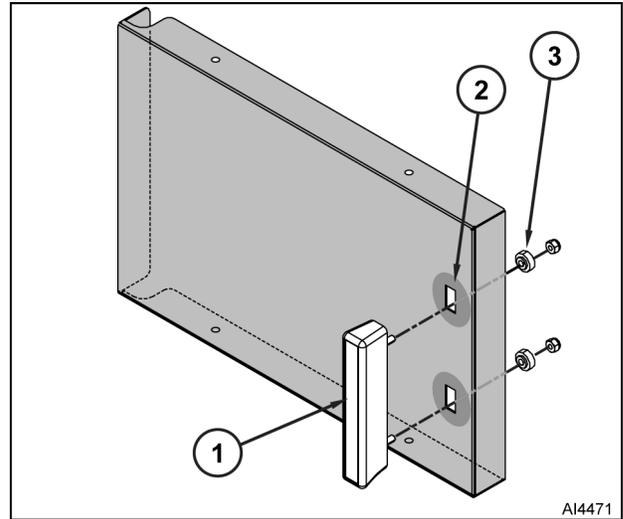

Fig. 15
4. Remove lock nuts, stepped spacers (3, Fig. 15) and door handle (1) from door.
NOTE: Apply Lubriplate 630AA (2, Fig. 15) around slots of outer door housing where step spacers contact housing.